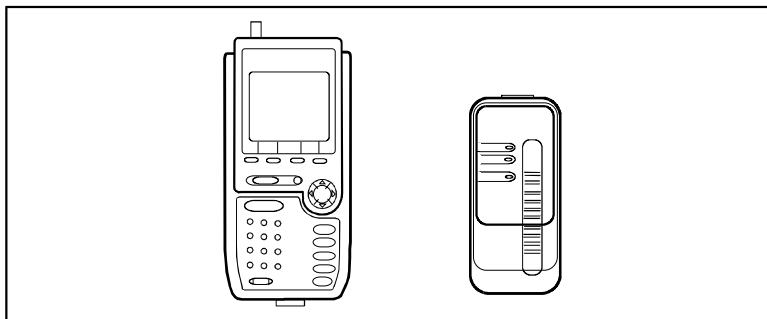

Figure 3-14 PentaScanner and Super Injector
E.g. PentaScanner™ and Super Injector™ by Microtest, see Figure 3-14, fulfill these needs.